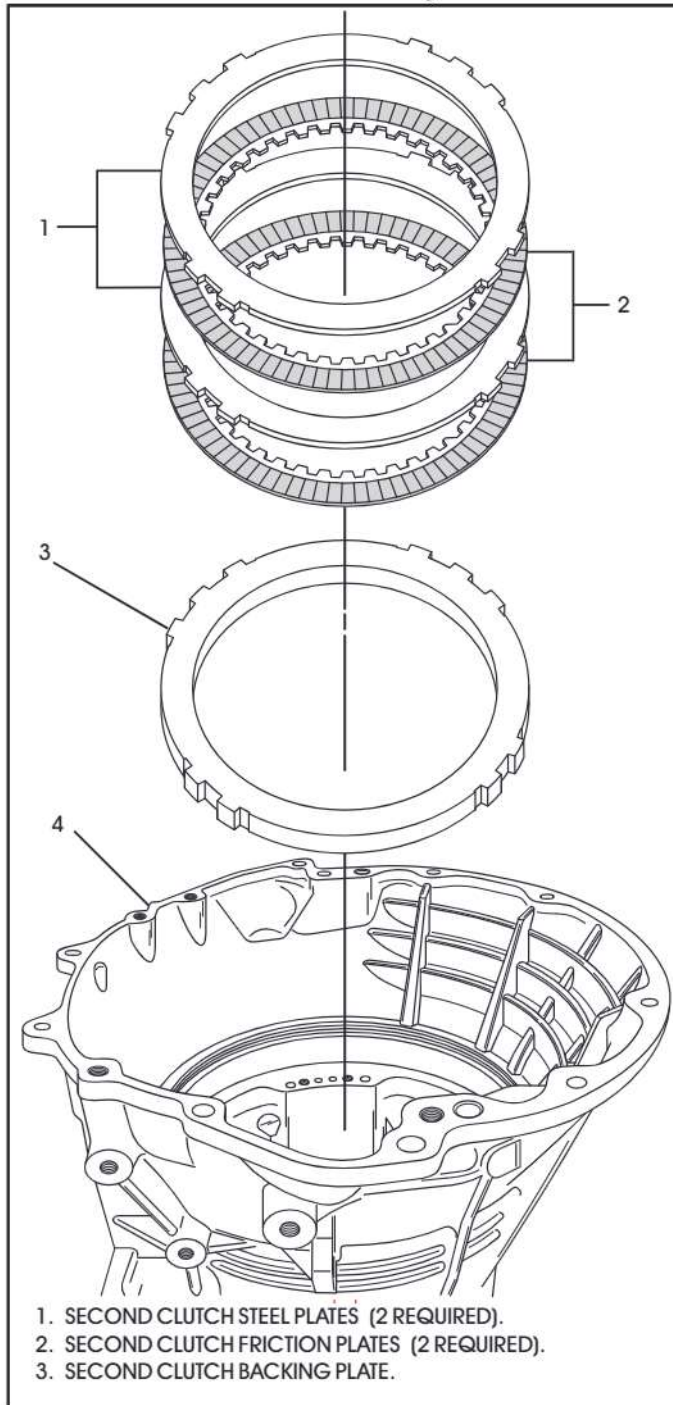

Figure 117
30. Install the 2nd clutch backing plate into case as shown in Figure 117.
31. Install the 2nd clutch pack into case beginning with a lined plate and alternating with steels until you have installed 2 lined & 2 steel plates as shown in Figure 117.